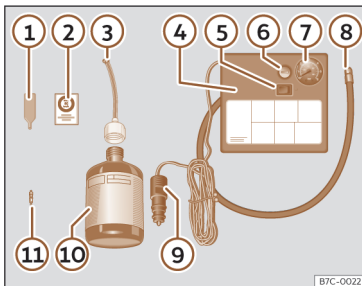

Fig. 34 Standard representation: anti-puncture kit contents.
The anti-puncture kit is located underneath the floor covering in the luggage compartment. It includes the following components >>> **Fig. 34:**
- Unscrew the tyre valve cap and insert. Use the >>> **Fig. 34** ① tool to remove the insert. Place it on a clean surface.
- Shake the tyre sealant bottle vigorously >>> **Fig. 34** ⑩.
- Screw the inflator tube >>> **Fig. 34** ③ into the sealant bottle. The bottle's seal will break automatically.
- Remove the lid from the filling tube >>> **Fig. 34** ③ and screw the open end of the tube into the tyre valve.
- Place the insert back into the tyre valve using the tool >>> **Fig. 34** ①.
- Screw the compressor tyre inflator tube >>> **Fig. 34** ⑧ into the tyre valve.
- Check that the air bleed screw is closed >>> **Fig. 34** ⑥.
- Insert the connector >>> **Fig. 34** ⑨ into the vehicle's 12-volt socket >>> **page 145**.
- Turn the air compressor on with the ON/OFF switch >>> **Fig. 34** ⑤.
- Attach the sticker >>> Fig. 34 ② to the instrument cluster, within the driver's visual field.
Screw the inflator tube >>> Fig. 34 ⑤ again and check the pressure on the gauge ⑥.